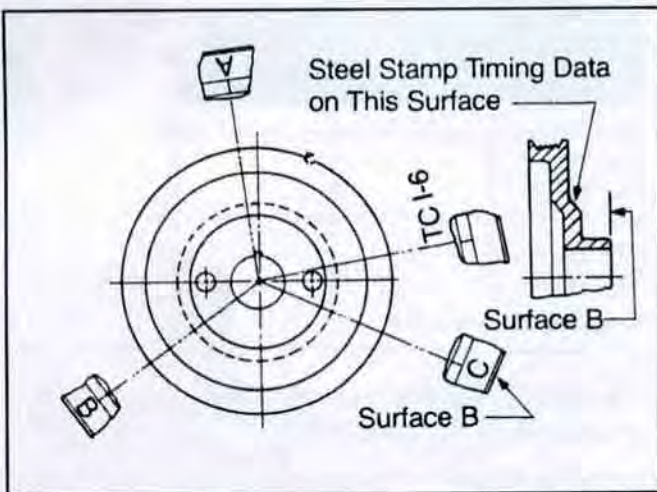

Fig. 2-52, (K11920). Accessory drive pulley marking — KT/KTA19
1. Bar the engine in the direction of rotation until "B" mark on the pulley, Fig. 2-52, is aligned with pointer on the gear case cover. In this position, both valve rocker levers for cylinder No. 3 must be free (valves closed). The injector plunger for cylinder No. 6 must be at top of travel; if not, bar the engine 360 degrees, realign the marks with the pointer.